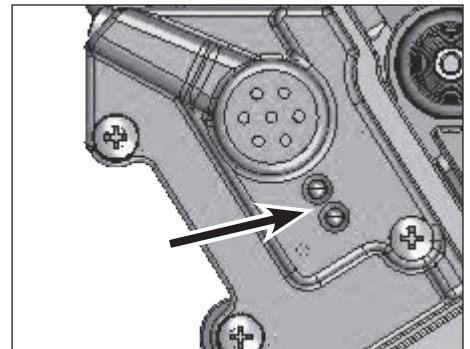

Figure 20 - Low Nail Indicator Lights
**LOW NAIL INDICATOR LIGHTS (See Figure 20)**